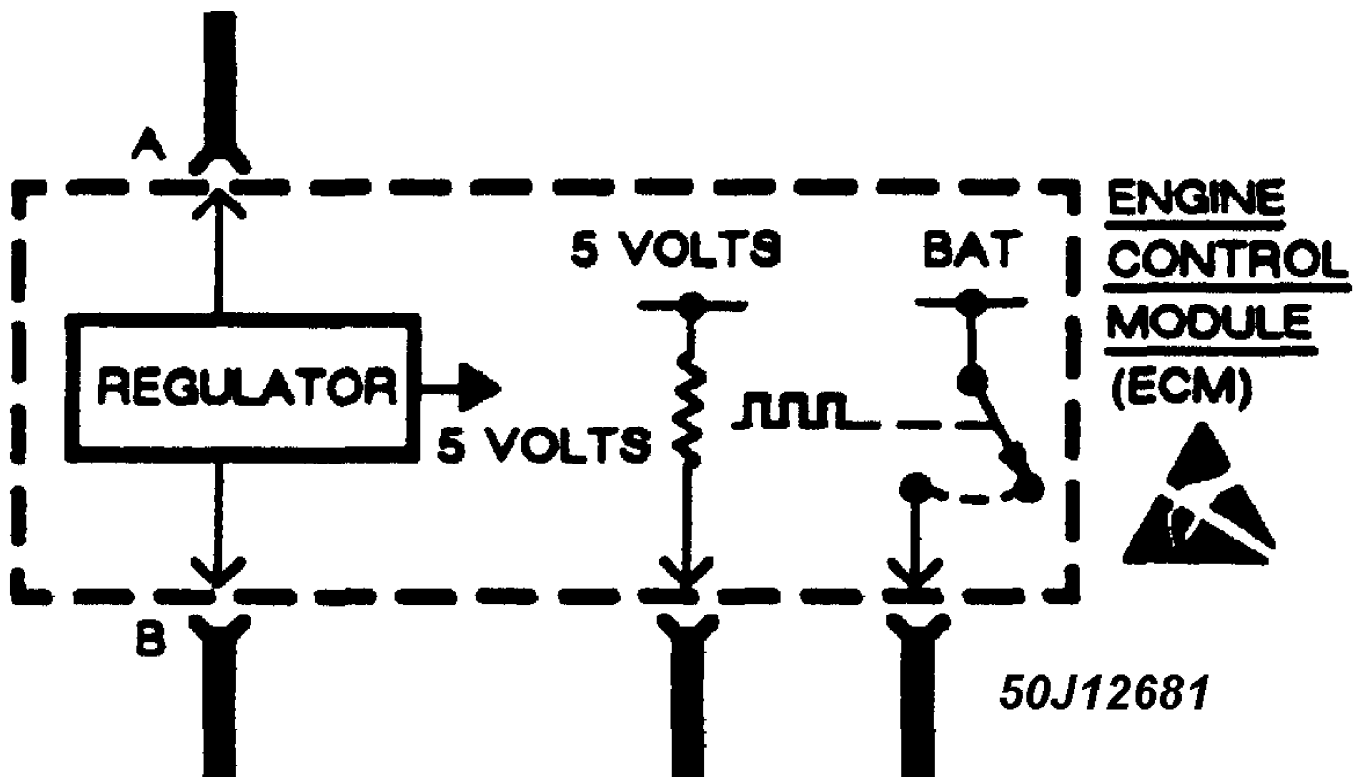

Fig. 2: Sample Schematic Showing Typical ESD Sensitive Device
1) Solid State circuits in electronic devices are shown greatly simplified in schematics. See Fig. 2. Due to the simplification of the electronic devices on the schematic, resistance measurements could be misleading or could lead to an electrostatic discharge. Always follow the recommended diagnostic procedure.